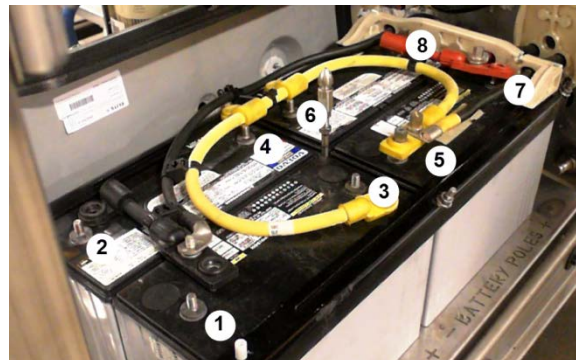

FIGURE 43: DISCONNECT 8 CABLE TERMINALS
3. Using a 9/16 hex socket box, disconnect the eight (8) battery cable terminals (FIGURE 43).